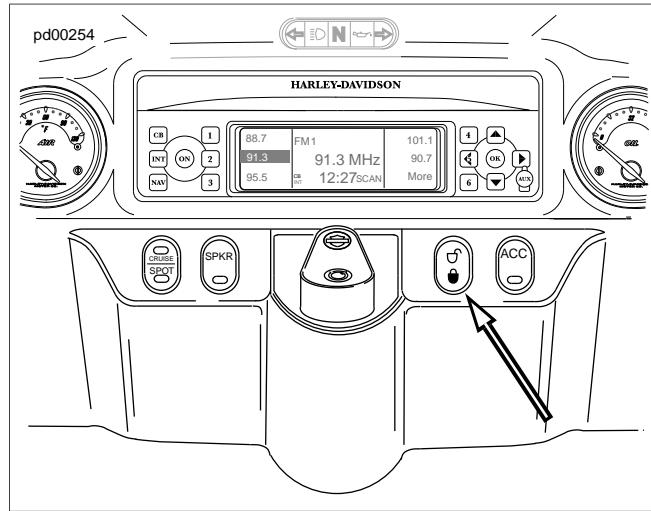

Figure 12. Saddlebag/Tour-Pak Lock Switch
2. See Figure 12. Press UNLOCK on the saddlebag/Tour-Pak lock switch to set locks to the unlocked position. Wait 5 seconds.